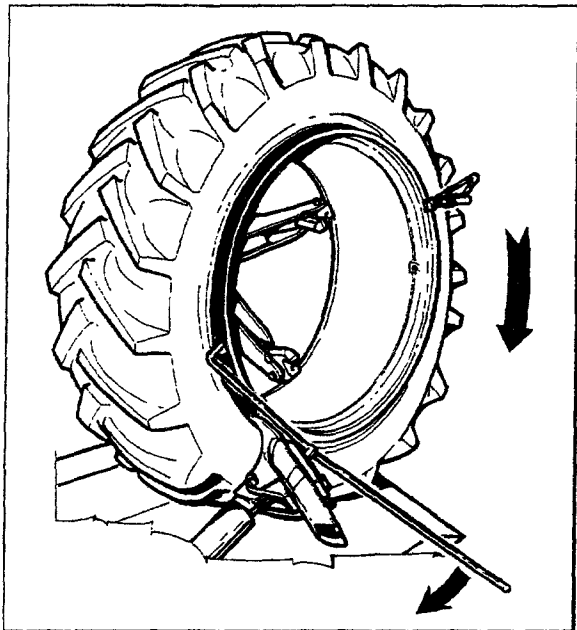

Fig.51
- Place the hook tool as described in 5.5.2. Rotate the chuck clockwise till the bead is completely mounted. If necessary, use the bead bar to keep the bead in the drop center (Fig.51).